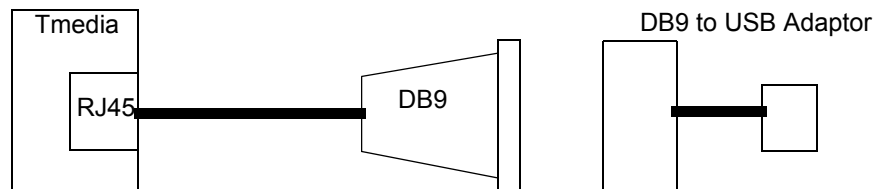

Figure 5.2 Conceptual View of a Serial Connection from the TMG3200 to a Computer
2. If your computer's serial port features a DB9 connector, use the DB9 to RJ-45 adapter supplied with your TMG3200. If your computer's serial port features a USB connector, you will need to provide a USB to DB9 adaptor. Refer to figure 5.2 on page 32.